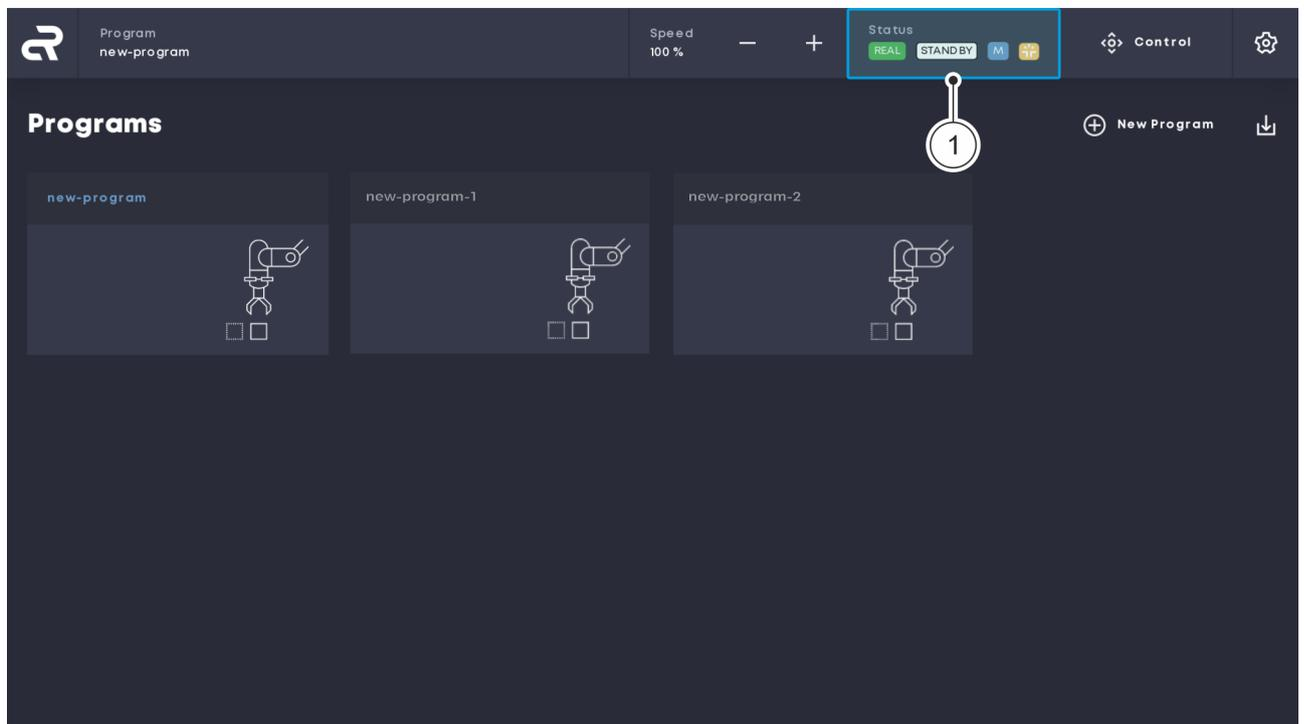

Fig. 17 Main screen
01. On the main screen, click the 'Status' button Fig. 17 / ①.